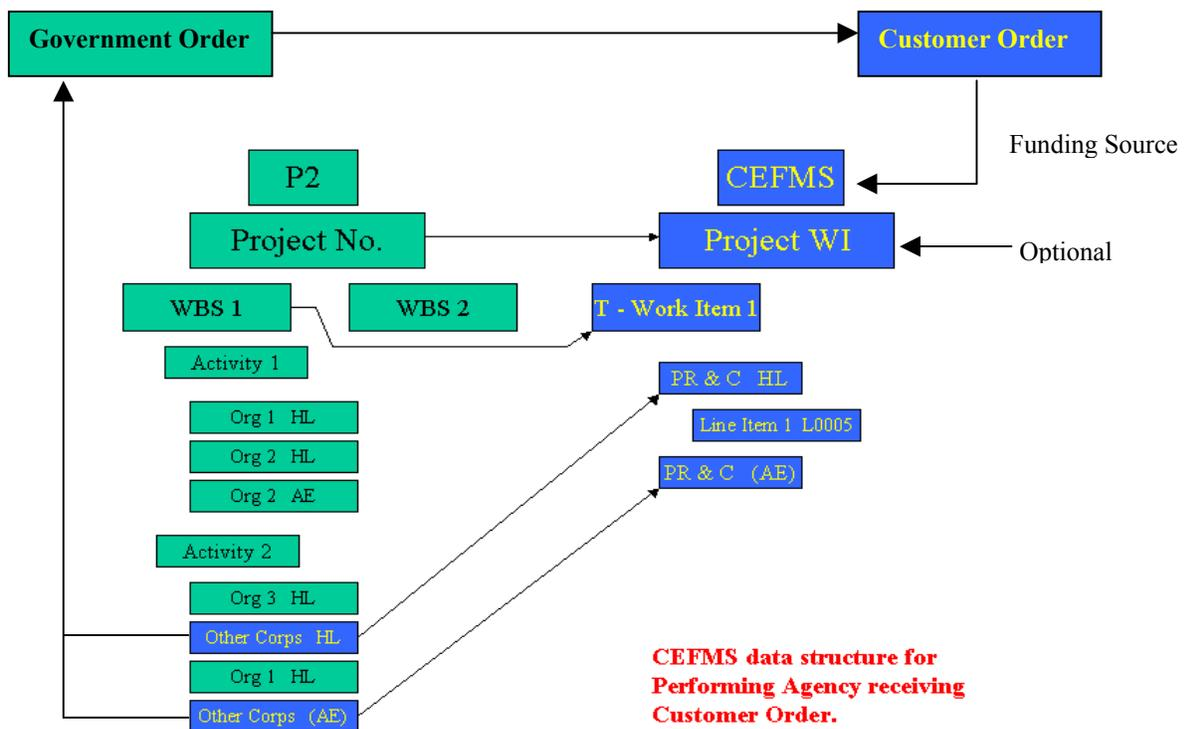

Figure 3. Work performed by Other Corps.
**Work performed by Other Corps District** Figure 3 illustrates the interface between P2 and CEFMS for work performed by another Corps District, the alignment between WBS elements and resource estimates created in the home (ordering) District’s P2 database, and the creation of work items and PR&Cs directly in the performing District’s CEFMS database. The project work item will reflect the same Project work item as established in the ordering district’s CEFMS database. **How will this work? (magic?) A more detailed explanation is needed. Yes: In the programs: P2 will check the resource Org. code and resource code for (WKBOTHCOE).. This will trigger the system to push info to a different CEFMS DB Based upon the resource code.** PR&Cs will be created in accordance with the resource estimate pushed from P2.